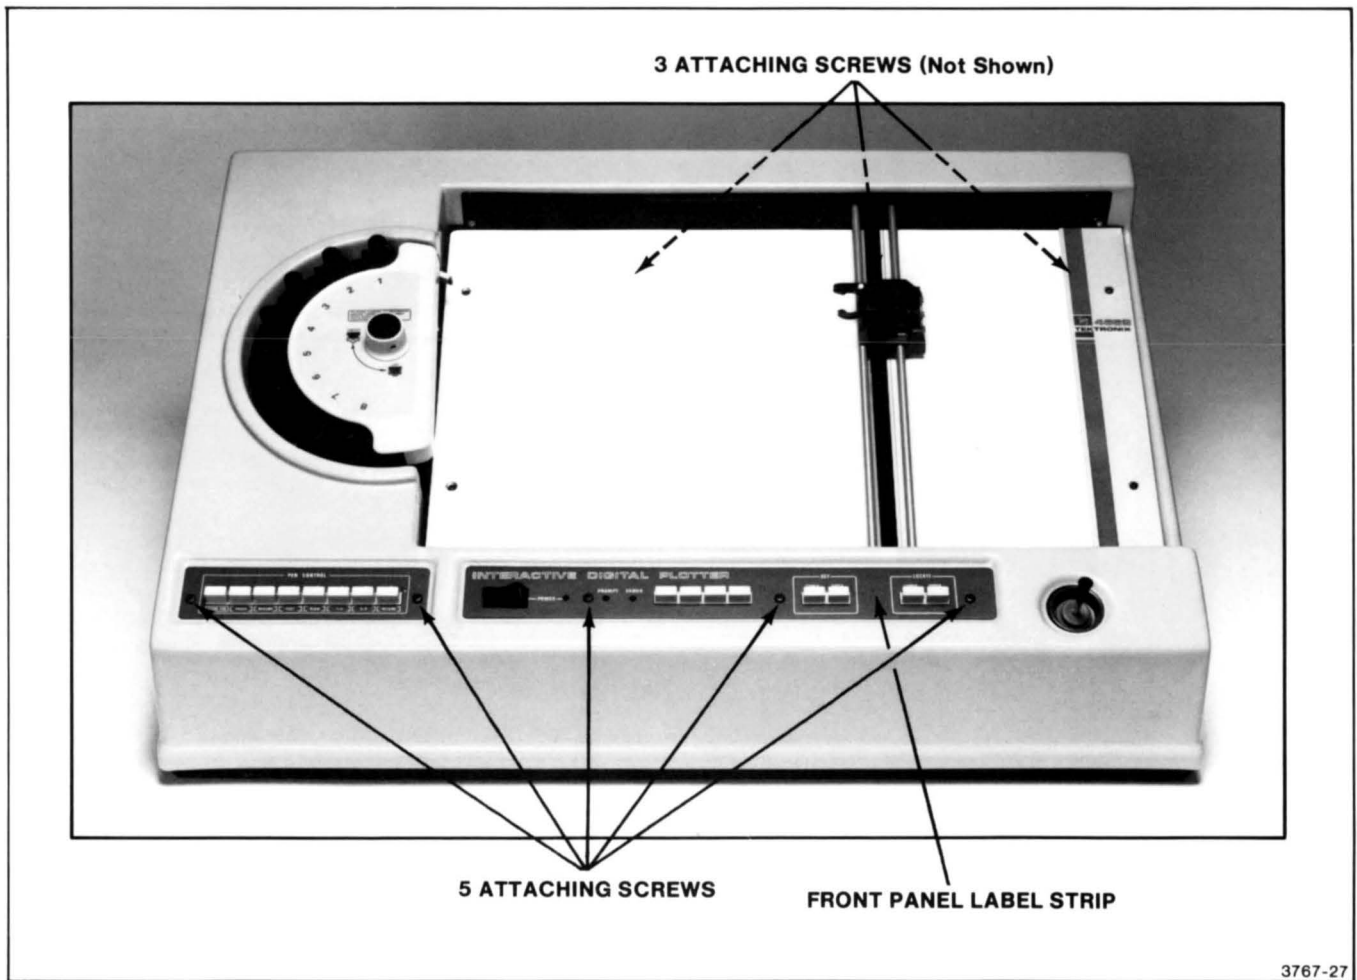

Figure J-11. Plotter Case Attaching Screws (Option 31).
19. **Install** the eight hex-socket cap screws holding the plotter case to the frame (see Figure J-11).